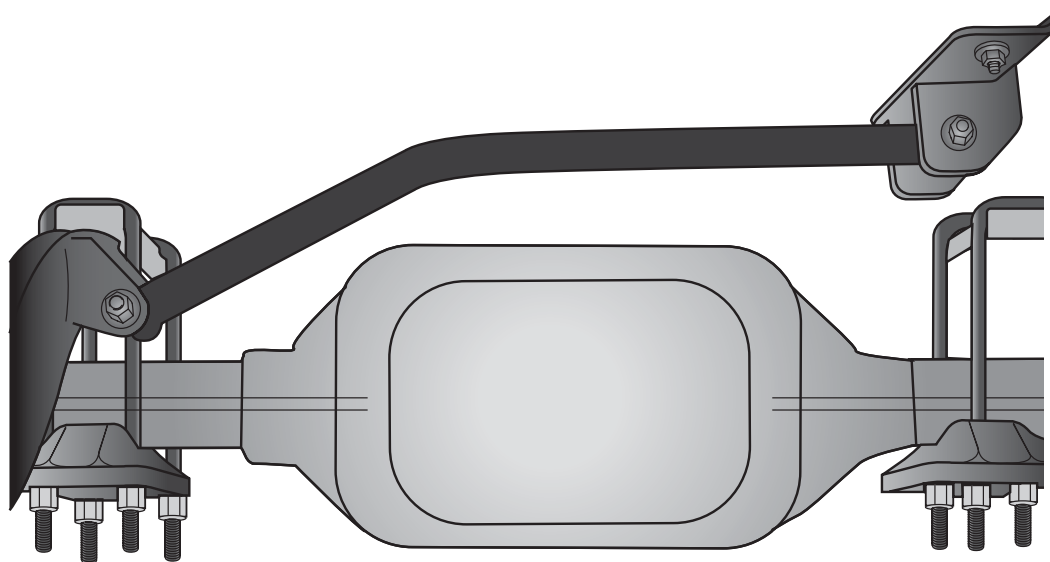

Figure 12
2. Attach the bushing end of the panhard rod to the beam using the supplied $\frac{9}{16}$ " bolt, washers, and nyloc nut (Figure 11a, Figure 12).
4. Attach the heim end of the panhard rod to the previously installed passenger-side frame bracket using the supplied $\frac{3}{4}$ " bolt, washers, and nyloc nut (Figure 10b, Figure 12).